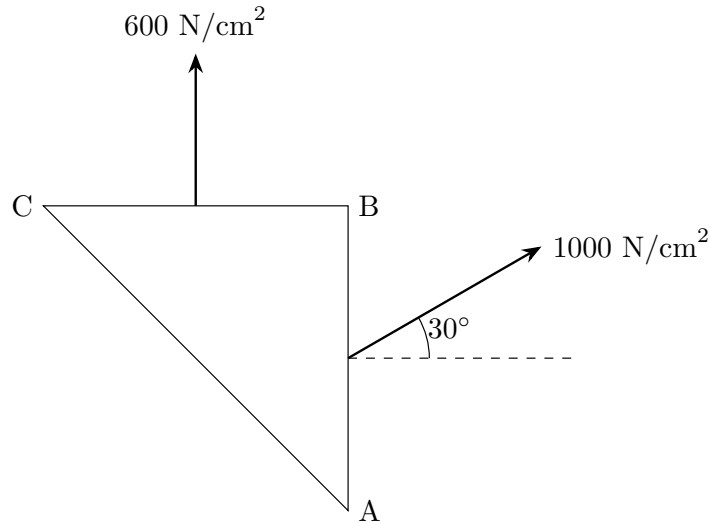

Figure 2
8. At a certain point in a material under stress the intensity of the resultant stress on a vertical plane is 1000 N/cm^2 , inclined at 30° to the normal to that plane, and the stress on a horizontal plane has a normal tensile component of intensity 600 N/cm^2 as shown in Fig. 2. Find the magnitude and direction of the resultant stress on the horizontal plane and the principal stresses.